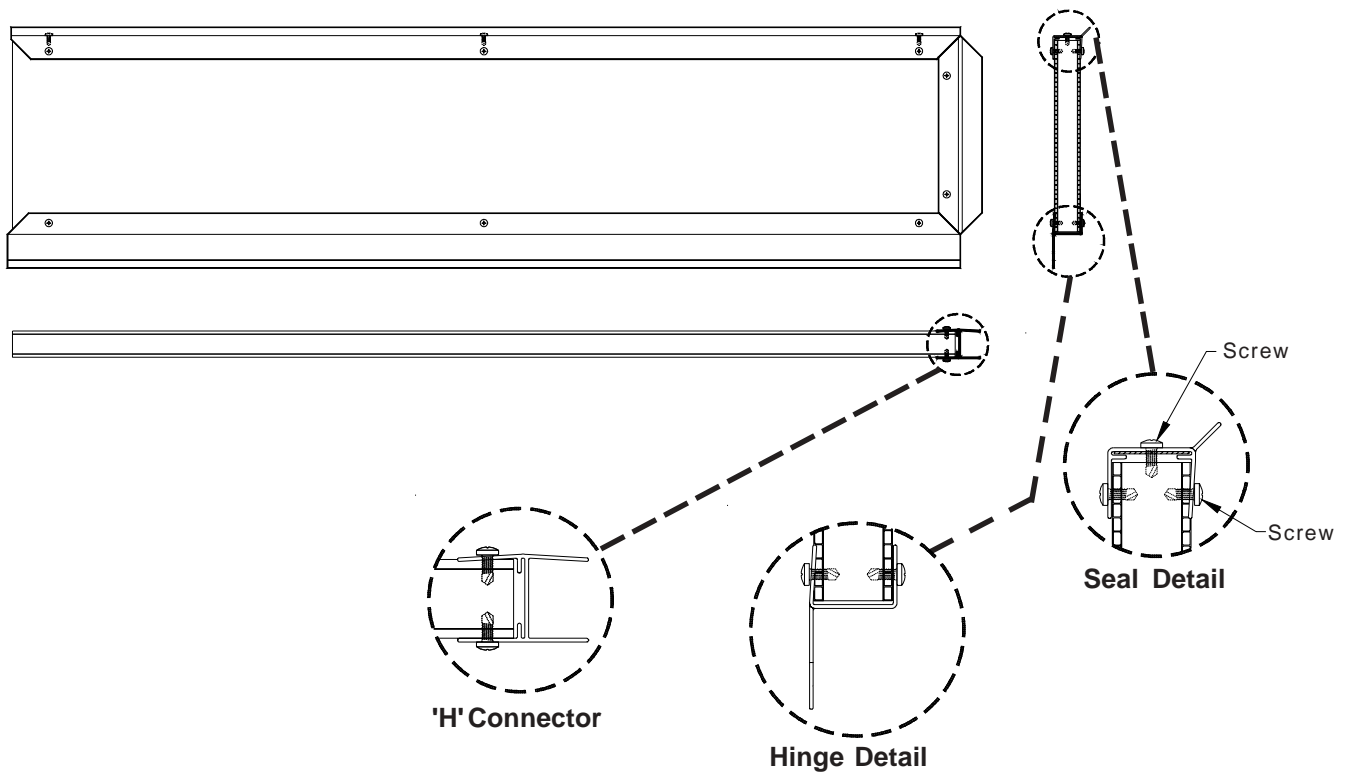

Figure 10
- 4) Assemble the door in the desired configuration by affixing extrusions to the door core with screws as shown in **Figure 10**.